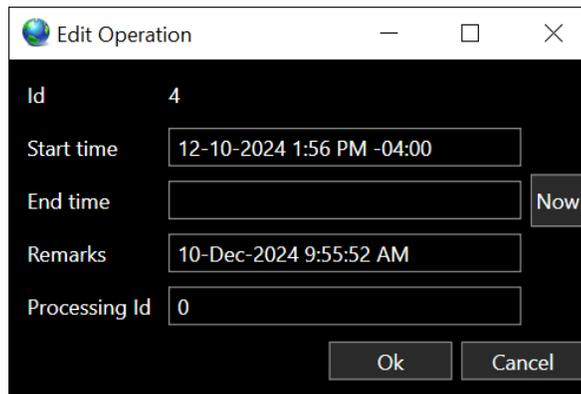

FIGURE 22 EDIT OPERATION DIALOG
2. Click the  to open the Edit Operation dialog, see Figure 22.